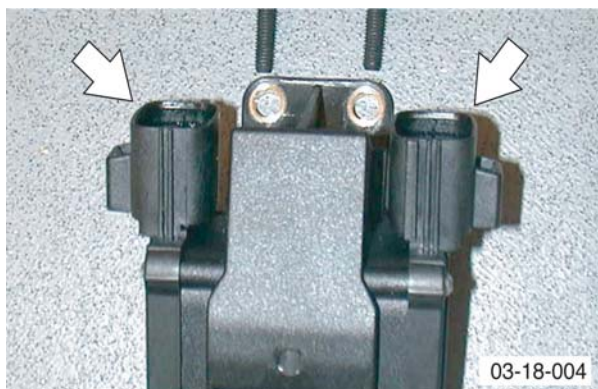

Figure 2
3. With unit free, disconnect two connectors (see Figure 2).